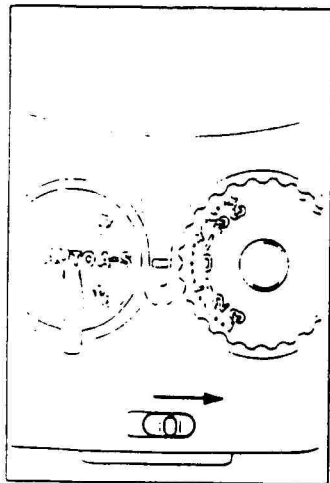

Fig. 1
1. Move the eye-piece shutter knob in the arrow direction. (See Fig. 1.)
2. Set the metering system change-over dial at AUTO A-S, and set the exposure correction dial at "0". Then remove four screws ① and take out the top cover. (See Fig. 1.)